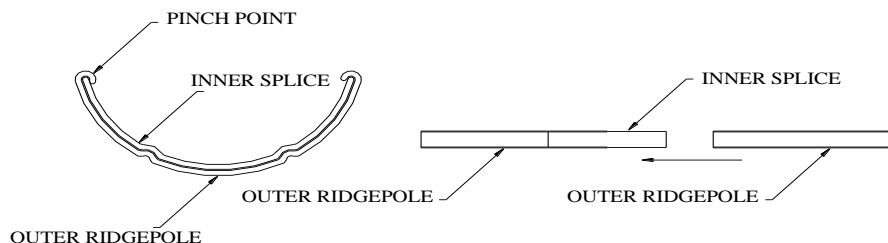

Figure 12
7. The ridgepole will slide together similar to the axle. Slide a splice half way into one section of ridgepole and then slide another piece onto that. Once it is together, crimp the grooves into the splices to prevent separation. You can crimp the splice in place by pinching the lip around it with pliers or by hitting it with a hammer. Refer to figure 12 for clarification.